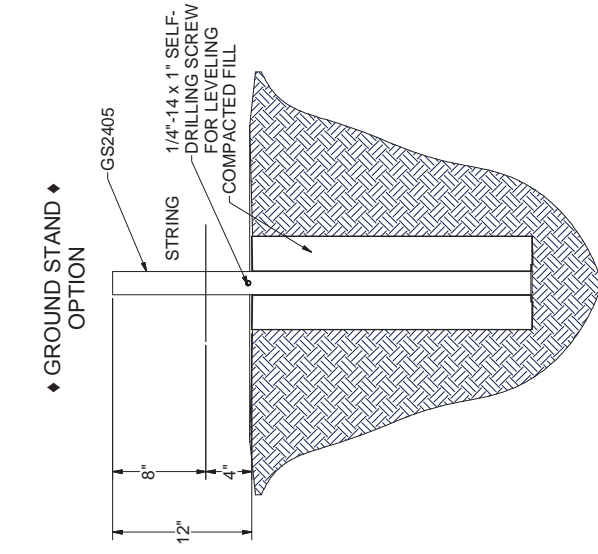

FIGURE 4
10. FOR MODERATE WIND AND SOIL CONDITIONS, INSTALL GROUND STANDS ACCORDING TO FIGURE 4.